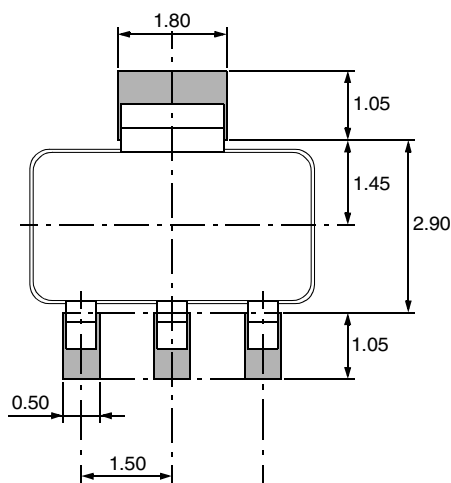

Fig. 3–6:
- Fig. 3–6: Recommended footprint SOT89 changed